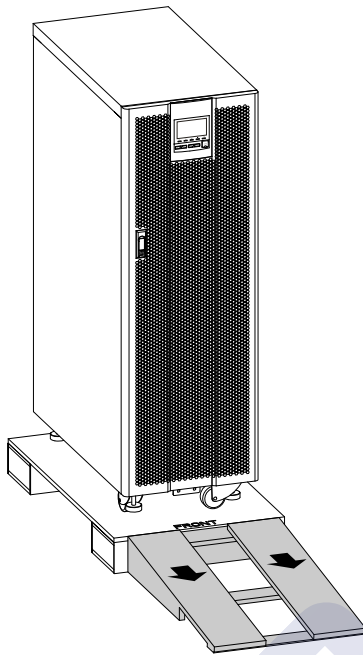

Figure3-7 Place the sliding plate
Step 7 Put the tilting plate to the front of the UPS, and keep the higher end of the sliding plate close to the wooden bracket, and move the UPS to ground slowly, as shown in Figure3-7.